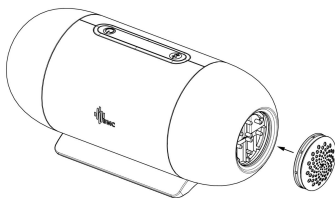

Fig. 11-2
(2) Install the filter cap containing the air filter to the main device, as shown in Fig. 11-2.